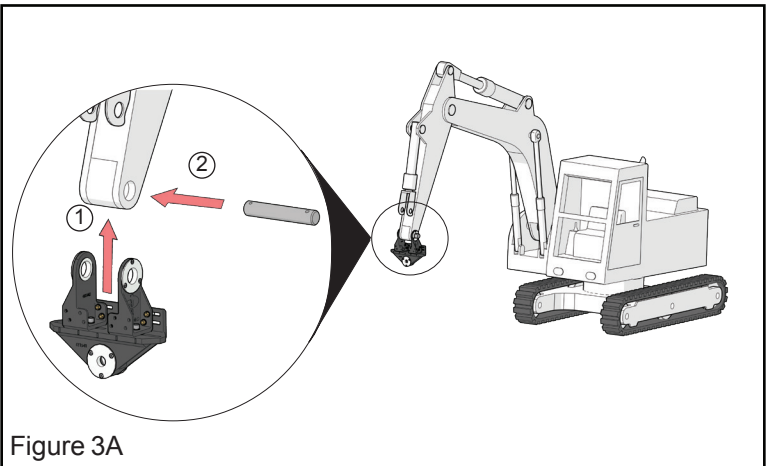

Figure 3A
**4** Position the mount onto the stick aligning the holes through the bushings with the hole through the stick. Slide the pin through the ears and the end of excavator stick and lock pin into place. (Figure 3A)